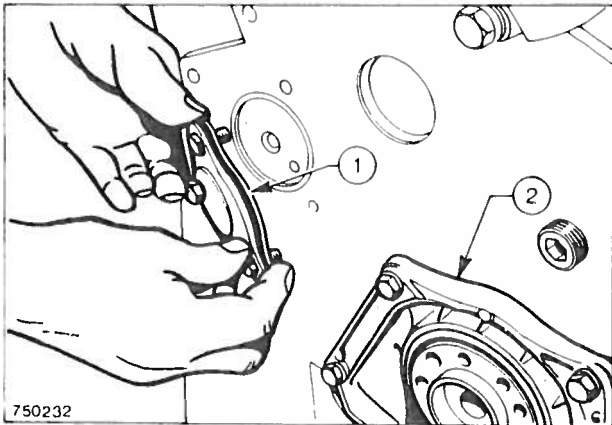

Fig. 14 Removing the camshaft rear cover plate
25. Remove the crankshaft rear oil seal cover and the camshaft rear cover plate Fig. 14.